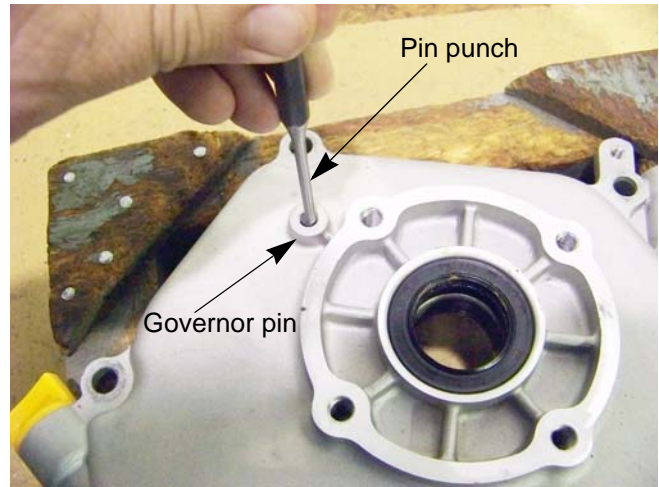

Figure 4.44
4. Drive out the governor pin using a pin punch. See Figure 4.44.